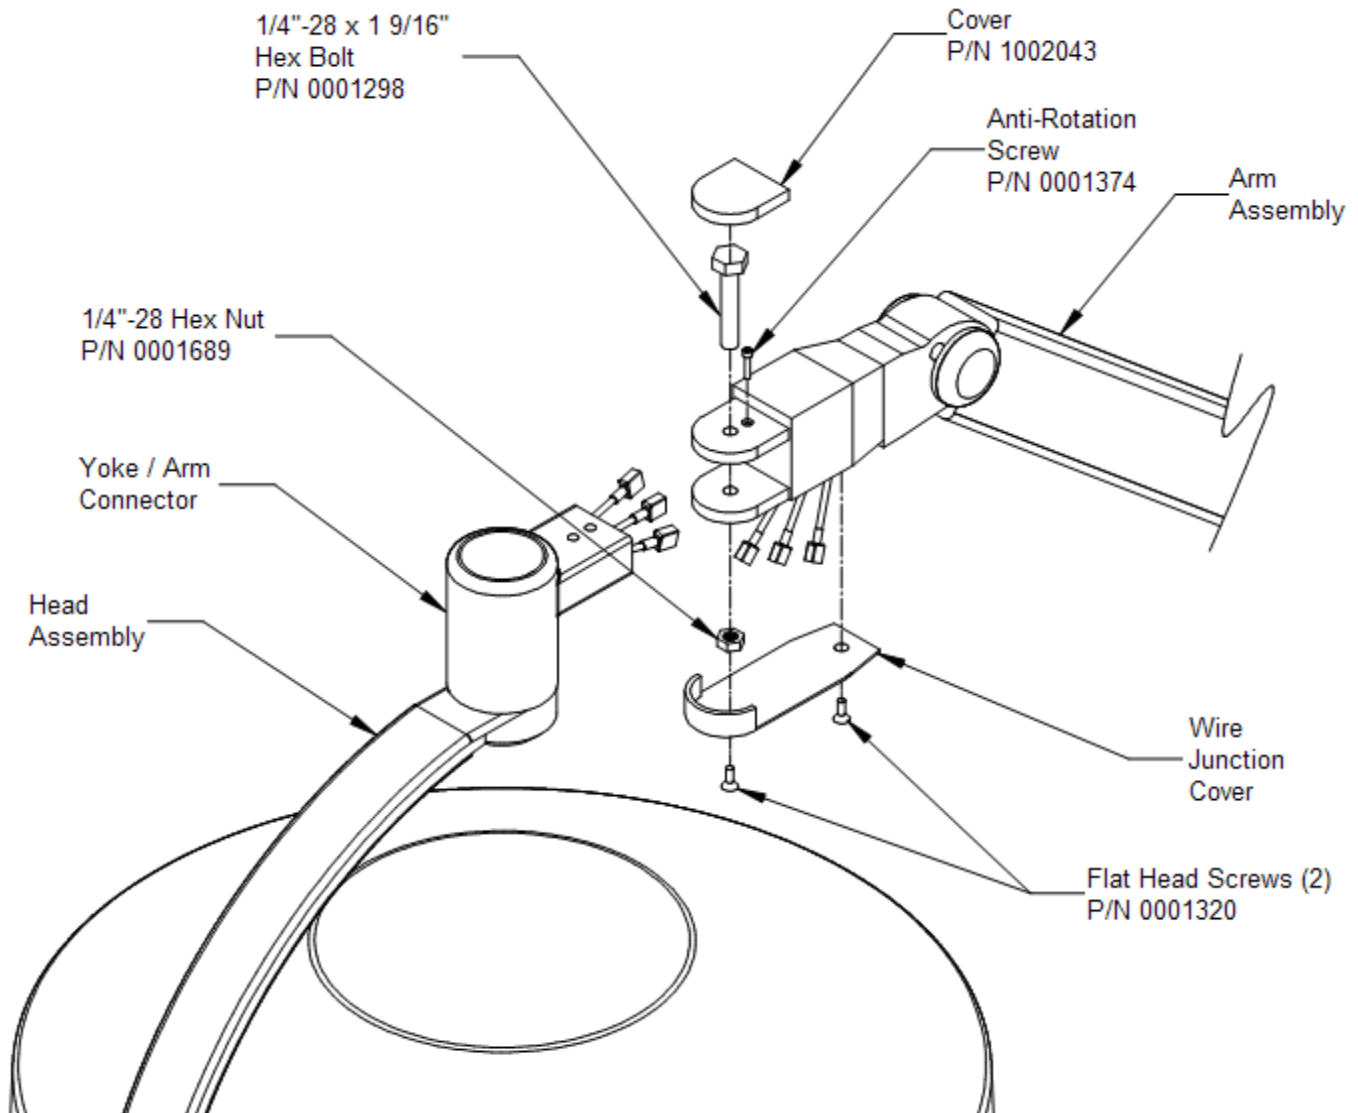

Figure 19: Light Head-Arm Installation
- Press the snap cover onto the top of the hex bolt as shown on **Figure 19: "Light Head-Arm Installation"**.